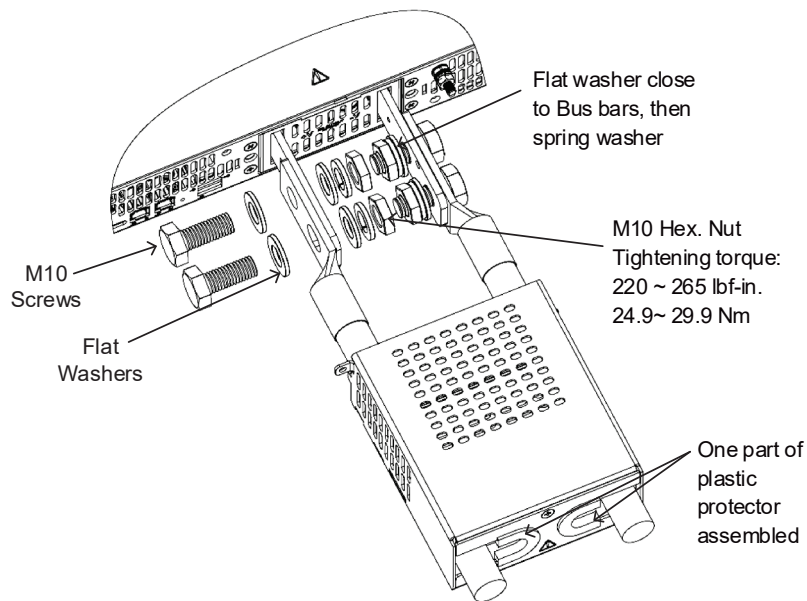
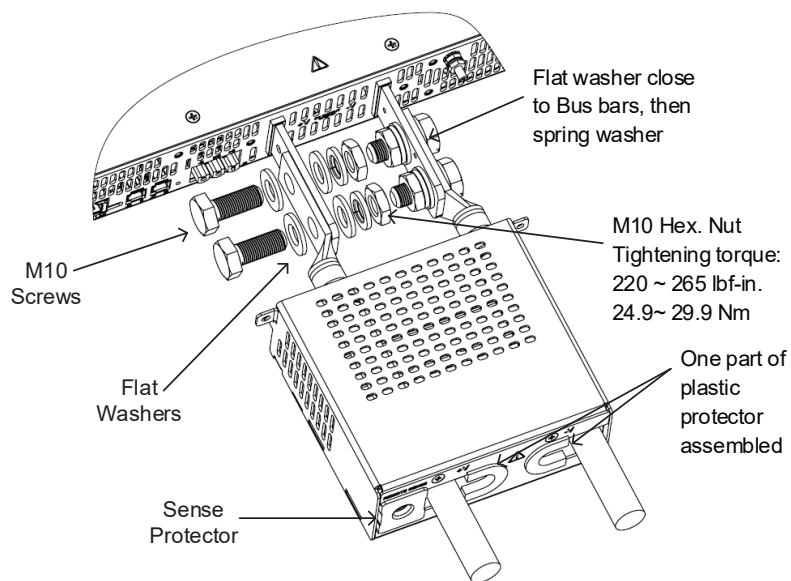

Figure 4-53: Wires Assembly
Figure 4-54: 7.5kW Wires Assembly
- Fix the wires to the bus bars as shown in Figure 4-53. Close the output protection assembly with one part of the plastic protector assembled on each side, as shown in Figure 4-53. For 7.5kW assemble sense protector as well, refer to Figure 4-54 for 7.5kW output protection assembly.